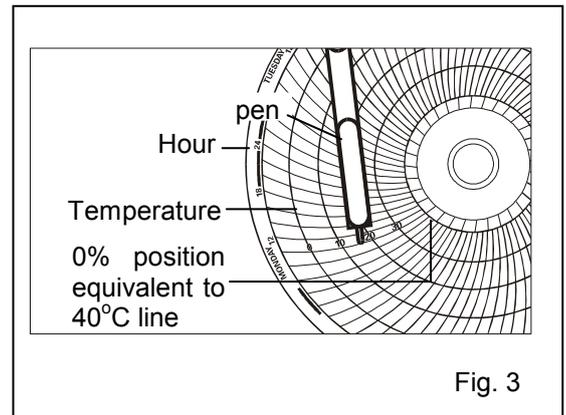

Fig. 3
3. Remove five screws fixing the electrical box cover with a screw driver. (Fig. 3)